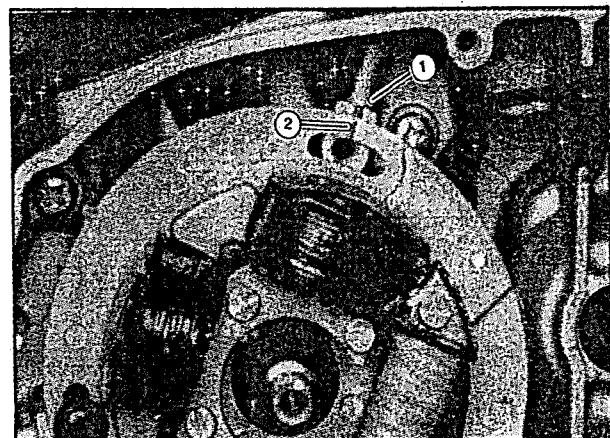

Fig 3.80
When fitting the stator, align the index mark (1) of the crankcase with index line (2) on the stator (fig 3.80)